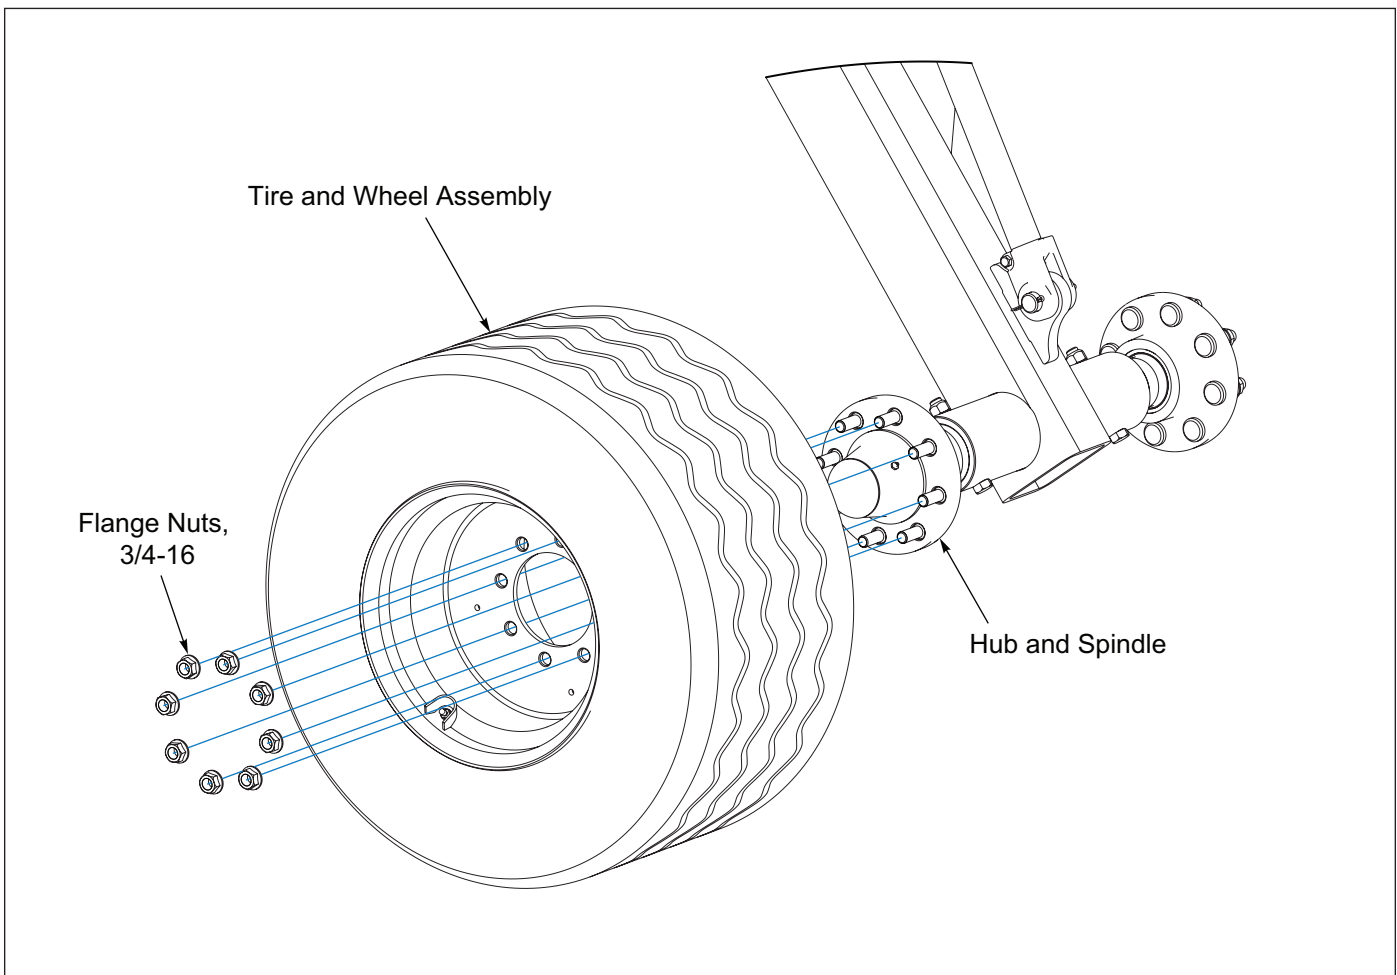

Figure 2-8: Tire and Wheel Assembly
1. Remove the eight 3/4-16 Flange Nuts from the Hub. Install the Tire and Wheel Assembly onto the hub. The Pulvi-Mulcher uses 480/45R17 tires and should be inflated to 73 PSI. See Figure 2-8.